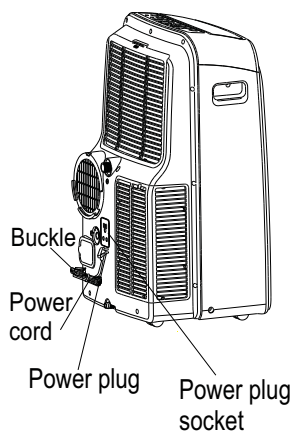

Fig.23
- Stop the appliance and unplug it, wrap the cord and bundle it with the buckle and plug the power plug into the socket on the back of the unit. (Fig.23). Remove the batteries from the remote controller.